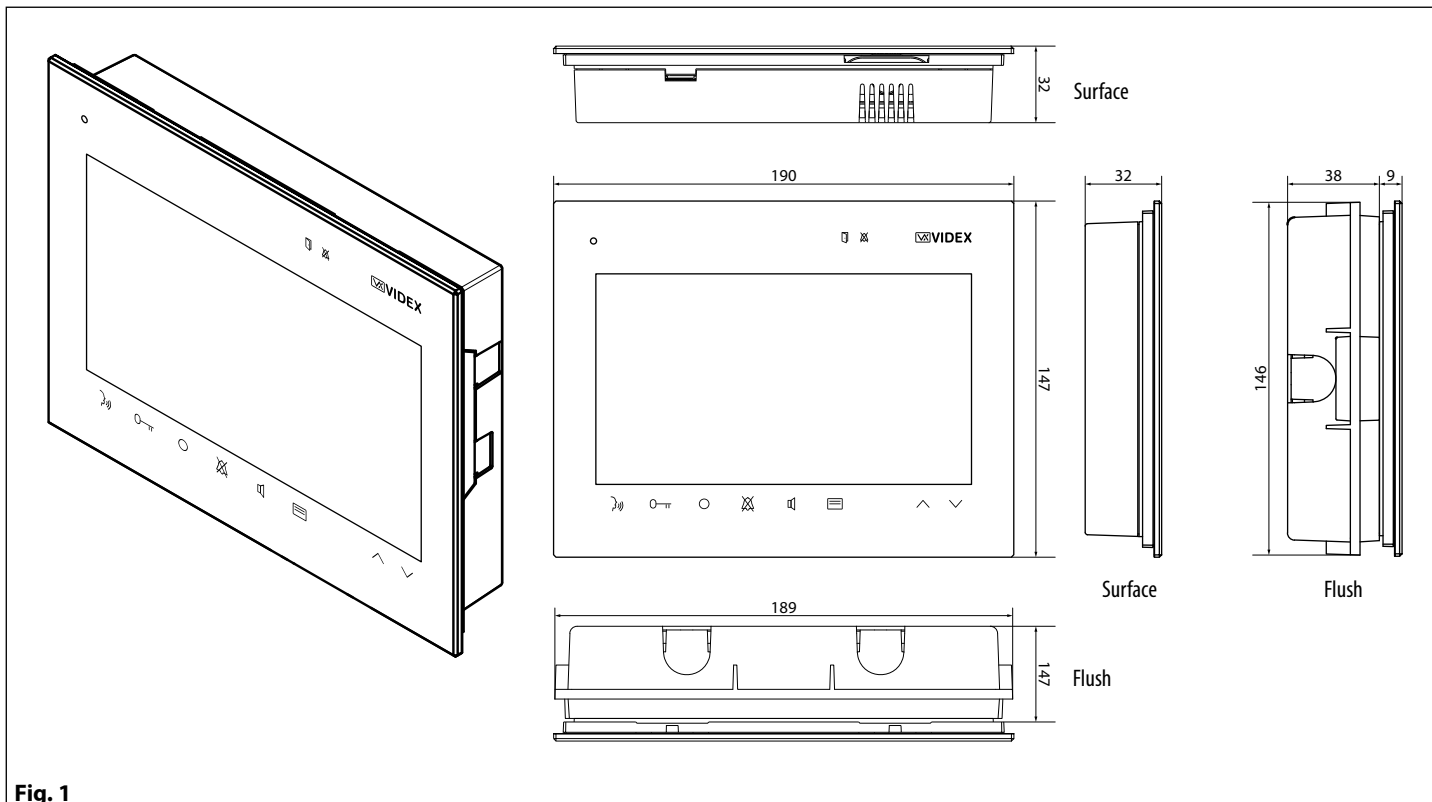

Fig. 1
1. Protect the holes to fix the videophone to the flush mounting box then embed the flush mounting box in line with the wall in a vertical position at 135cm height from the floor as shown in **figure 1**.